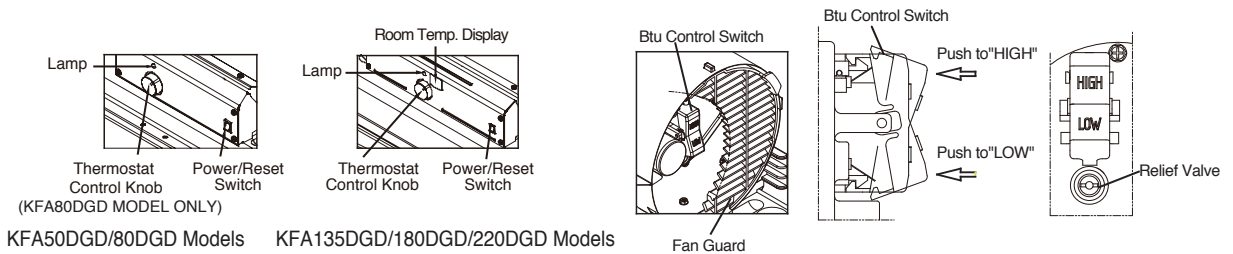

Figure 8. Controls for All Models
- 4) Position the Handles on top of fuel tank flange. Insert screws through handles, fuel tank flange and wheel support frames as shown in Figure 8 and attach nut finger tight after each screw is inserted.
- 5. Push “BTU control Switch” to desired level “High or LOW” (See Figure 8.) (KFA135/180/220DGD Models Only)